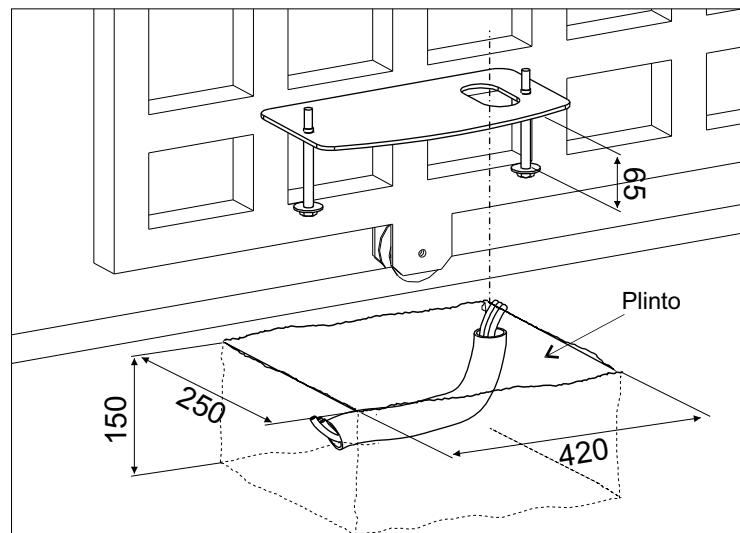

Fig. 1
2.1. Prepare a concret basement with the dimensions shown in Fig. 1 where the foundation plate and the anchor bolts will be concreted.